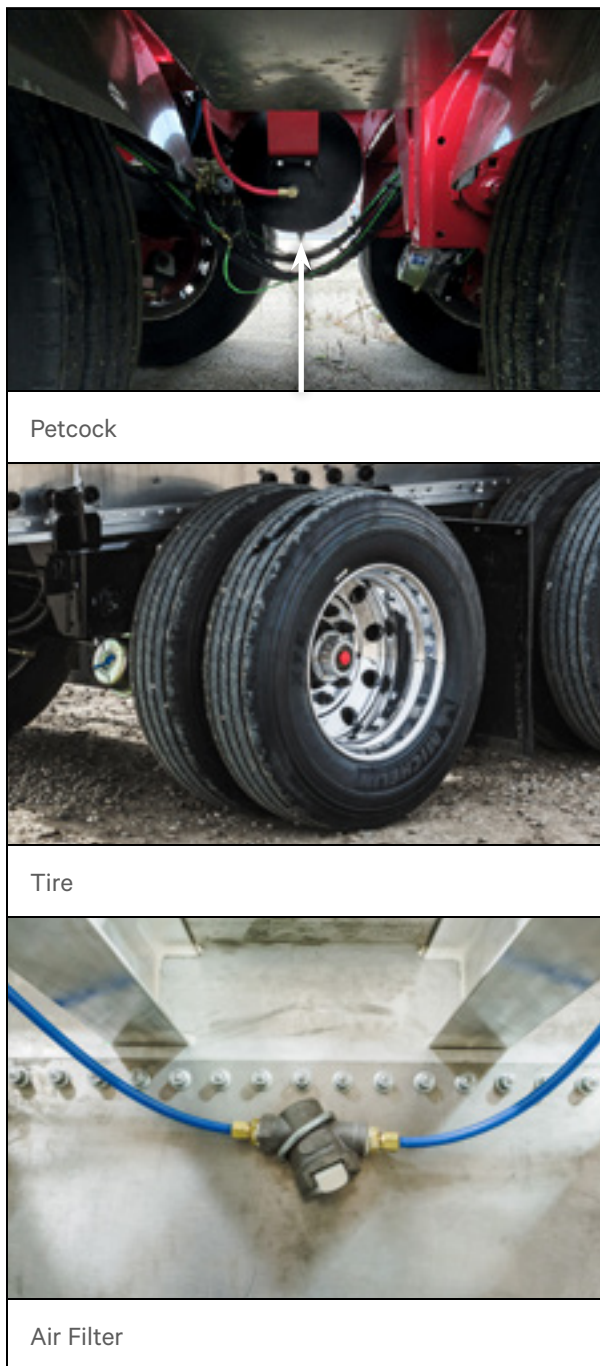

Figure 25 – Servicing (Typical)
3. The air brake line is equipped with an in-line filter to trap debris. This filter is located along the roadside of the upper coupler assembly. Reference Figure 25. Remove the filter cartridge. Blow out any debris with compressed air or wash the cartridge with mild detergent and water. Ensure it is completely dry before reinstalling the cartridge in the filter body.